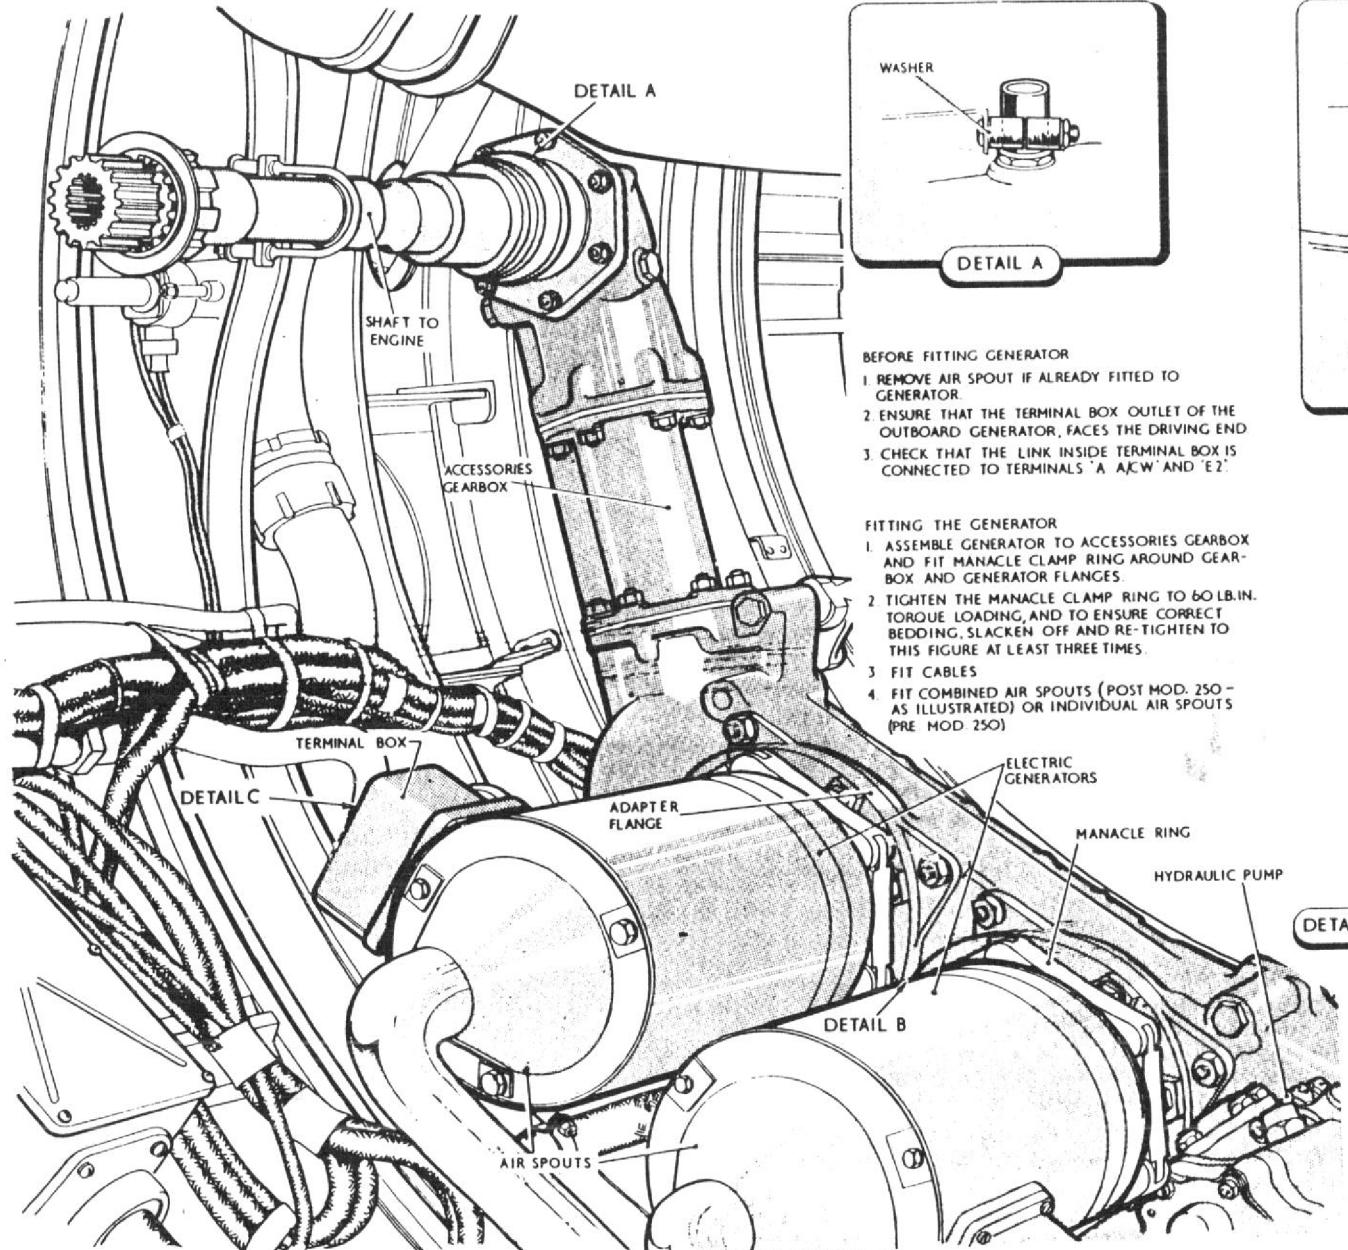

Fig.2 Accessories gearbox
Accessories gearbox (fig. 2)
24. If the engine is already out of the airframe, the accessories gearbox should be installed first. Prior to installation, the gearbox should be filled with oil (Sect. 2, Chap. 2) and, after the initial engine run, the oil level should be checked and if necessary topped up. When installing the gearbox fit the six bolts securing the gearbox to the rear spar taking care to fit the distance piece Part No. F.209992 to the top bolt on the starboard side between the gearbox and the rear spar. Tighten the six bolts evenly and when tight lock with the tab washers. Then fit the mounting block (detail A, Fig. 2) on the mounting trunnion at the top of the gearbox casing and the eye and fork end assembly (detail B, fig. 2) to the bottom of the gearbox and the fuselage stringer. The clearances between the components at these top and bottom attachments are taken up by fitting the washers shown in fig. 2 details A and B. Prior to connecting the drive shaft coupling, lightly grease the splines with grease XG-271. STI/Hunter/420A and Mod 1445 provide for the replacement of individually balanced gearbox drive shafts and engine couplings by paired units, dynamically balanced as a complete assembly of gearbox drive, consisting of drive and coupling sub-assemblies. These paired units are identified by yellow painted bands around the drive shaft and coupling driving member, and bear a common correlation number to maintain identity as renewal of an individual sub-assembly is not permissible. When installing a gearbox drive assembly, it is important that the quick release coupling locknut is fully and firmly tightened and then checked by a supervisor (STI/Hunter/420A refers). Before fitting an accessory, examine the quill drive for general condition and that it is an easy sliding fit on the accessory serrations. Immerse the quill in gearbox oil prior to refitting to the gearbox. Lubricate the serrated shaft of the accessory with gearbox oil. When new generators are to be fitted reference must be made to the assembly note contained in fig. 2.